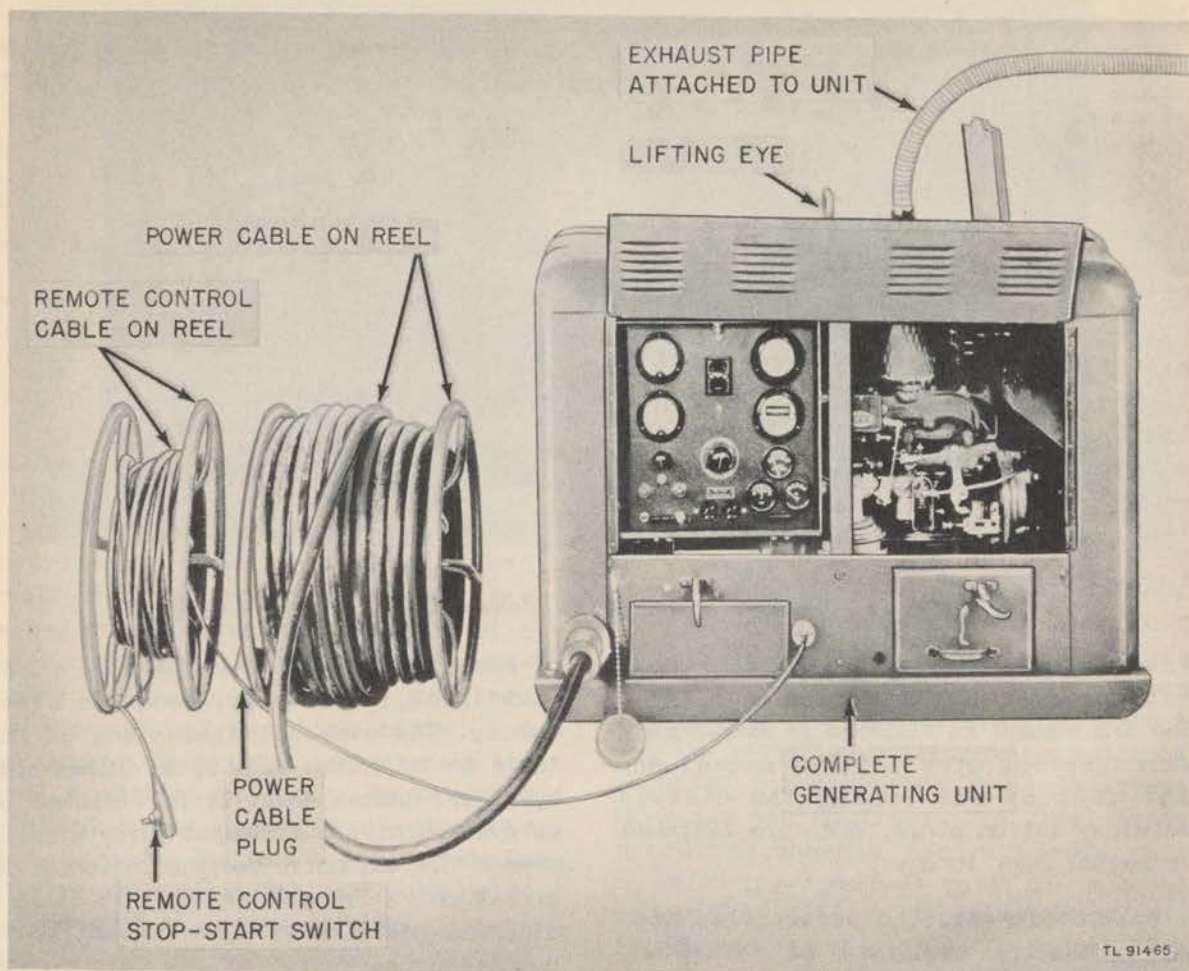

Figure 15. Power Unit PE-107 ready to operate.
(4) *Power Unit PE-107.* This is a self-contained power plate consisting of a gasoline engine, a power generator, and a control panel. The entire assembly is mounted on a welded steel skid base and inclosed in a sheet-metal housing (fig. 15). The engine, generator, control panel, fuel gauge, fuel filler cap, radiator filler cap, oil filler cap, and bayonet oil gauge can be reached through hinged panels on the sides and top of the housing. A storage battery can be reached through a hinged panel on one end of the unit. Five terminals, mounted on a terminal